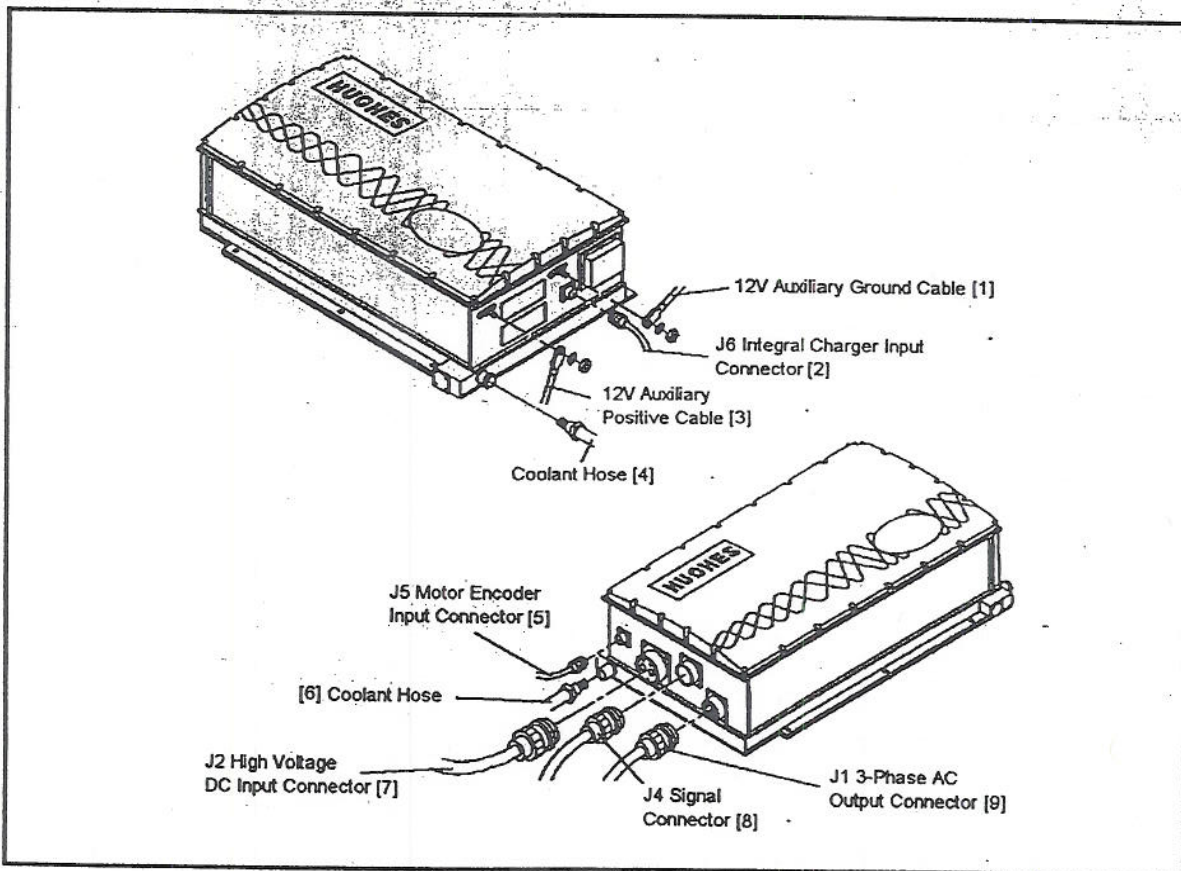

Figure 6-1 - PCU Connections
- A. Remove (6) bolts holding cargo bed to chassis
- B. Remove charging inlet connector from the bed (located behind fuel door) by removing (3) mounting bolts holding face plate to cargo bed.
2. Remove the Dolphin PCU (See figure 6-1)
Reinstall Drive System PCU (See figures 6-1 and 6-5)